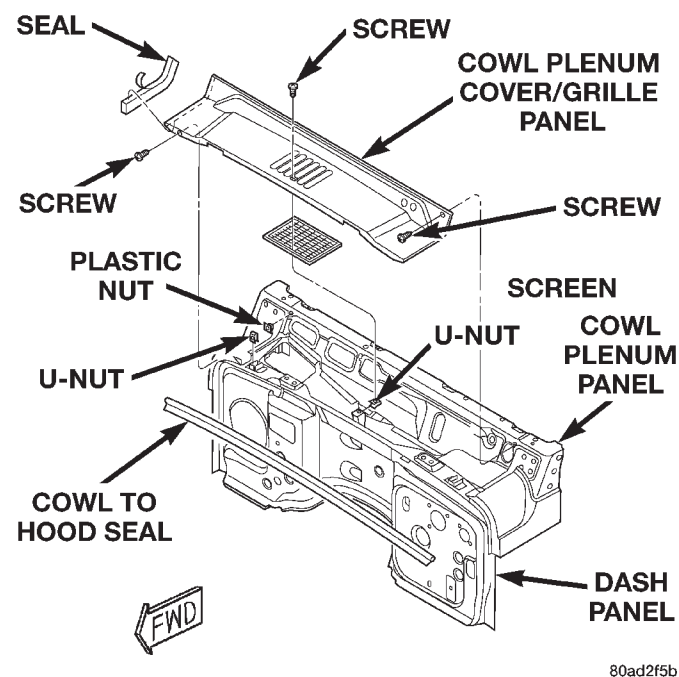

Fig. 10 Cowl Plenum Cover/Grille Panel Remove/Install
(1) Disconnect and isolate the battery negative cable.
(2) Remove the wiper arms from the wiper pivots. See Wiper Arm in this group for the procedures.
(3) Remove the one screw that secures the center of the cowl plenum cover/grille panel to the cowl plenum panel.
(4) Remove the four screws that secure the cowl plenum cover/grille panel to the cowl panel near the base of the windshield.
(5) Open and support the hood
(6) Pull each end of the cowl to hood seal away from the metal flange where the dash panel and cowl plenum panel meet far enough to access the one screw that secures each outboard end of the cowl plenum cover/grille panel to the cowl plenum panel (Fig. 10).